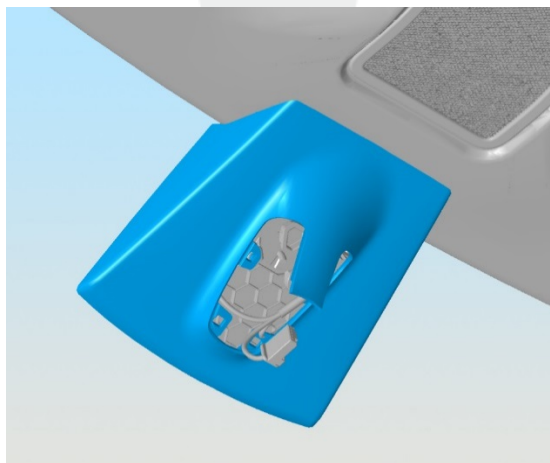

Figure 1
- Remove the mirror cover (Figure 1).